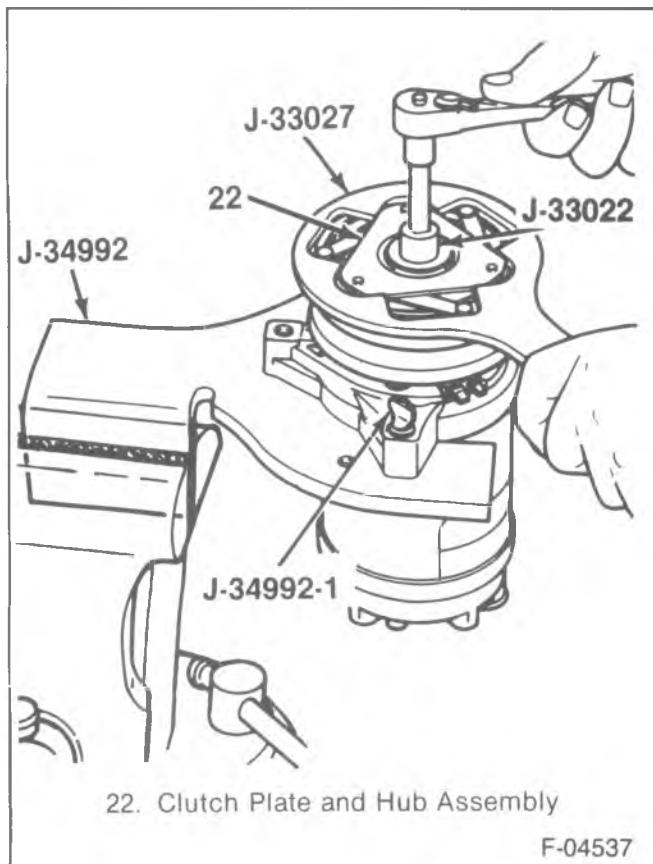
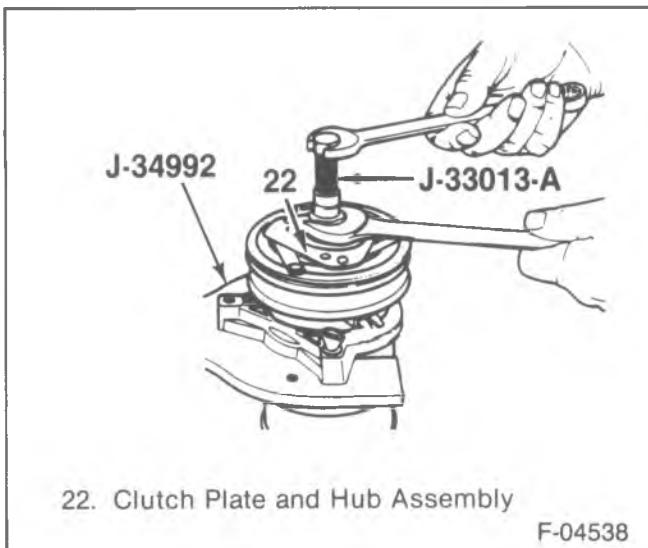

Figure 5—Removing the Shaft Nut
Figure 6—Removing the Clutch Plate and Hub Assembly
- Shaft nut (21) using J-33022 (figure 5).
- Clutch plate and hub assembly (22).
- Thread J-33013-B into the clutch plate and hub assembly (22).
- Hold the body of J-33013-B with a wrench and tighten the center screw into the remover body (figure 6).
- Shaft key (21).
- Retain shaft key (21) if usable.